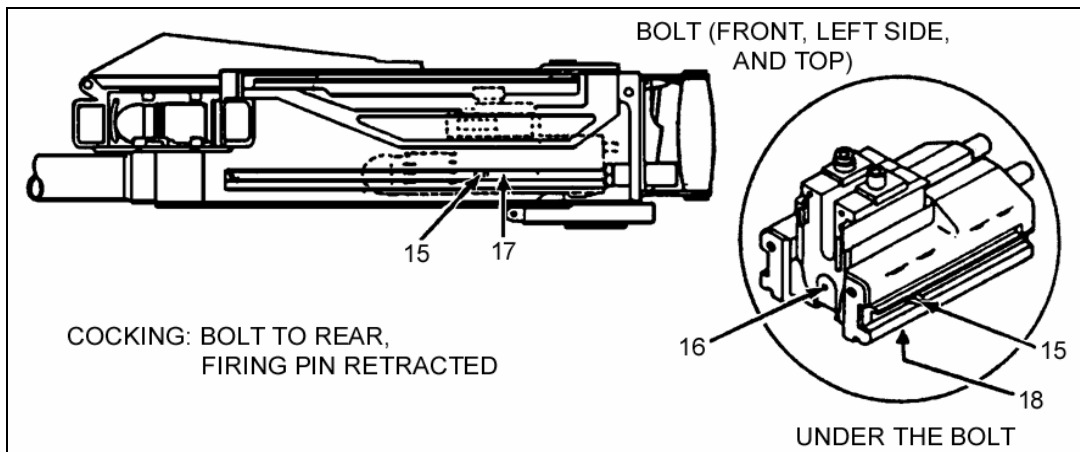

Figure 2-3. Cocking the MK 19.
c. **Cocking.** The rearward movement of the bolt causes the cocking lever (15) to retract the firing pin (16). When the cocking lever hits the rear end of the left receiver rail slot (17), the cocking lever is forced forward. When the cocking lever retracts the firing pin, the firing pin sear holds the firing pin to the rear (18). See Figure 2-3.